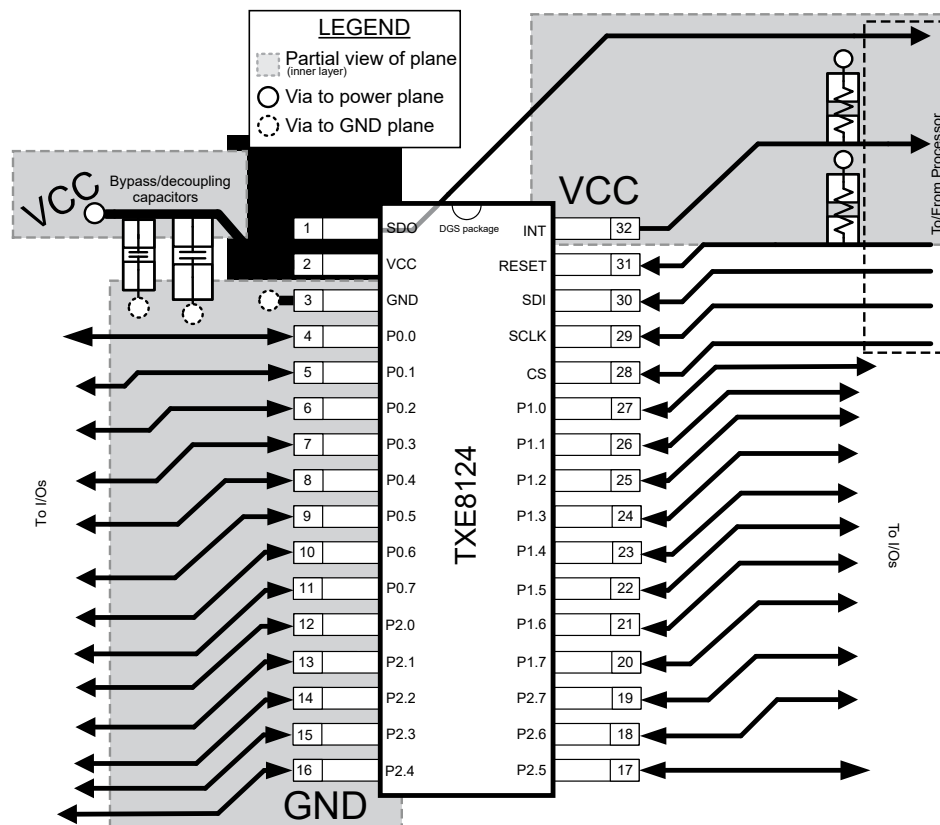

Figure 8-7. TXE8124 Layout
In all PCB layouts, it is a best practice to avoid right angles in signal traces, to fan out signal traces away from each other upon leaving the vicinity of an integrated circuit (IC), and to use thicker trace widths to carry higher amounts of current that commonly pass through power and ground traces. By-pass and decoupling capacitors are commonly used to control the voltage on the supply pins, using a larger capacitor to provide additional power in the event of a short power supply glitch and a smaller capacitor to filter out high-frequency ripple. These capacitors should be placed as close to the TXE8116/TXE8124 as possible. These best practices are shown in Figure 8-7.
For the layout example provided in Figure 8-7, it is possible to fabricate a PCB with only 2 layers by using the top layer for signal routing and the bottom layer as a split plane for power and ground (GND). However, a 4 layer board is preferable for boards with higher density signal routing. On a 4 layer PCB, it is common to route signals on the top and bottom layer, dedicate one internal layer to a ground plane, and dedicate the other internal layer to a power plane. In a board layout using planes or split planes for power and ground, vias are placed directly next to the surface mount component pad which needs to attach to power or GND and the via is connected electrically to the internal layer or the other side of the board. Vias are also used when a signal trace needs to be routed to the opposite side of the board, but this technique is not demonstrated in Figure 8-7.